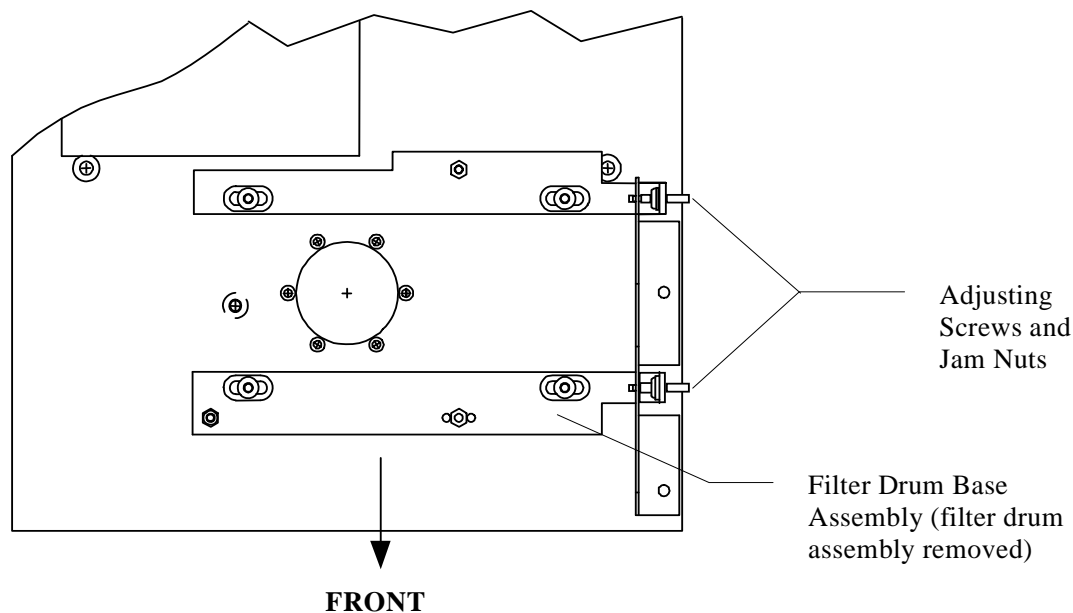

Figure 3-25. Filter Drum Adjustments - Top View
13. At the Filter Drum assembly, loosen the jam nuts and insert Allen wrenches (3/32") in both Filter Drum Allen alignment screws. (Figure 3-25 above shows the locations of alignment screws and jam nuts.) Ensure that the Filter Drum is running.